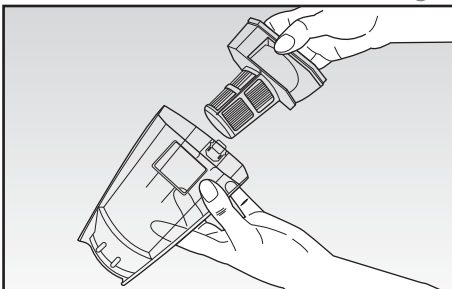

Fig. 9
- Remove the filter (D) outwards (Fig. 9) and the related support (E) to clean them.